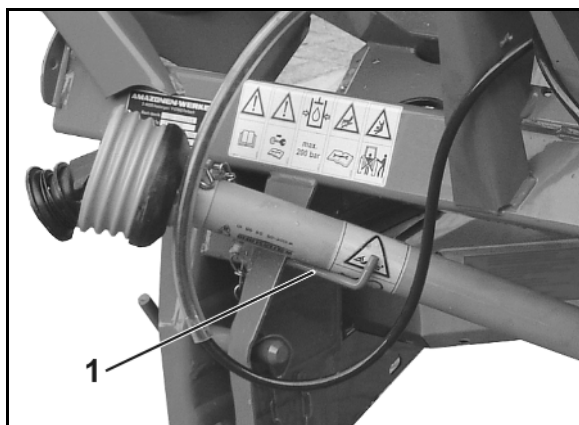

Fig. 36
5. Place the PTO shaft in the holder provided (Fig. 36/1).